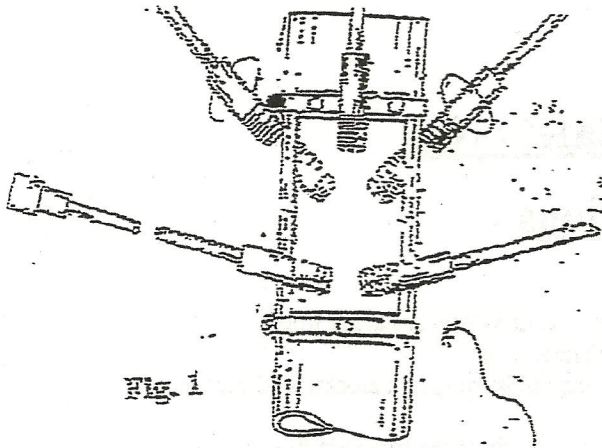

Fig. 1
- 3) Find and insert five rods into mounting bracket assembly, by hand tightening in a clockwise direction. (Fig. 1)